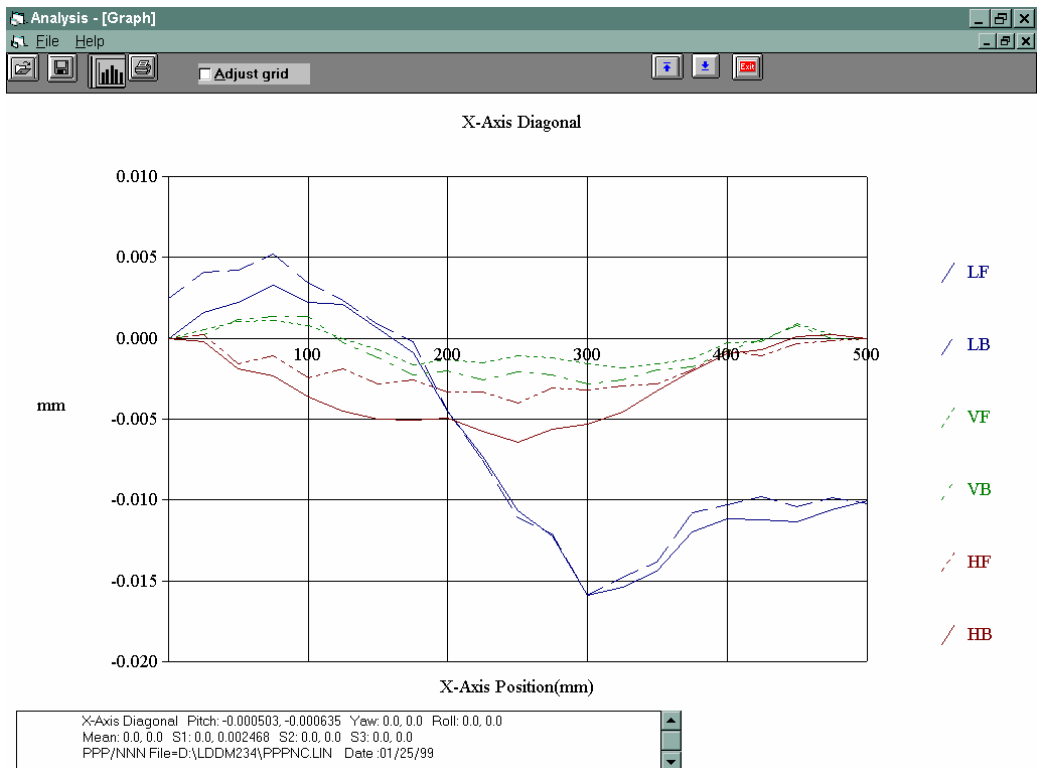

FIG. 9-11 A PLOT OF LINEAR POSITION ERRORS, VERTICAL STRAIGHTNESS AND HORIZONTAL STRAIGHTNESS OF X-AXIS
- 7) Click on **Graph**, a screen will popup for you to select the plots. A plot of linear position errors, vertical straightness and horizontal straightness is shown in FIG. 9-11. Click on  to get back to the analysis screen. To save the data file, click on **file** and **save**. The data will be saved under filename.SDX.